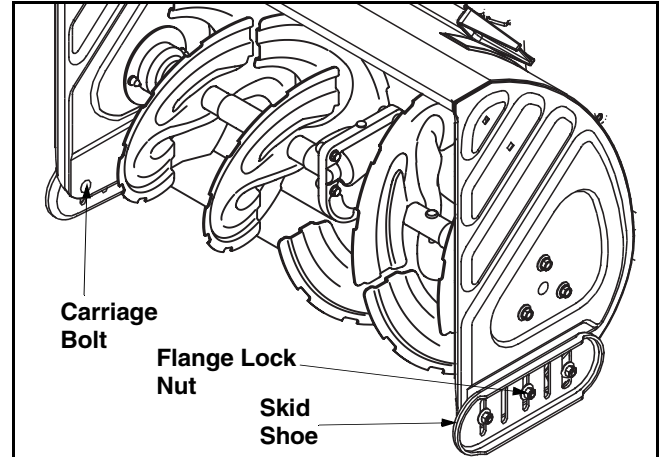

Figure 12
The space between the shave plate and the ground can be adjusted. See Figure 12.
- Remove the carriage bolts and flange lock nuts which attach the two skid shoes to the snow thrower on two sides. See Figure 12.